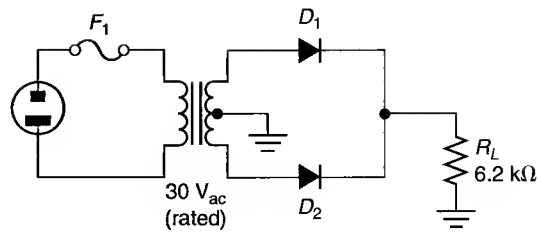

FIGURE 3.57
21. Determine the values of $V_{L(pk)}$, V_{ave} , and I_{ave} for the circuit shown in Figure 3.57.
24. Determine the PIV of the circuit shown in Figure 3.57.